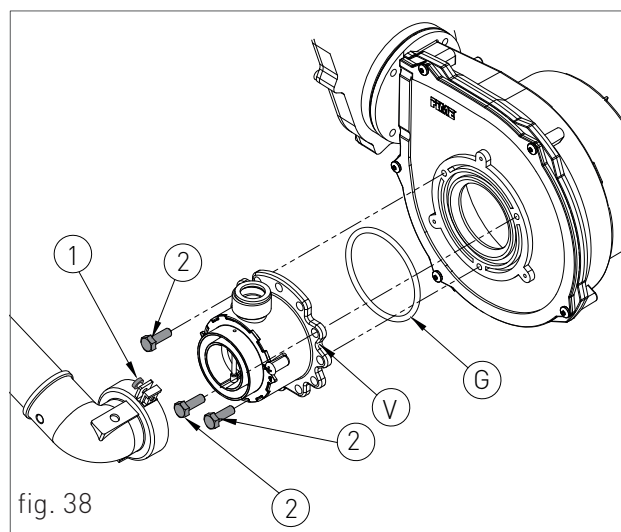
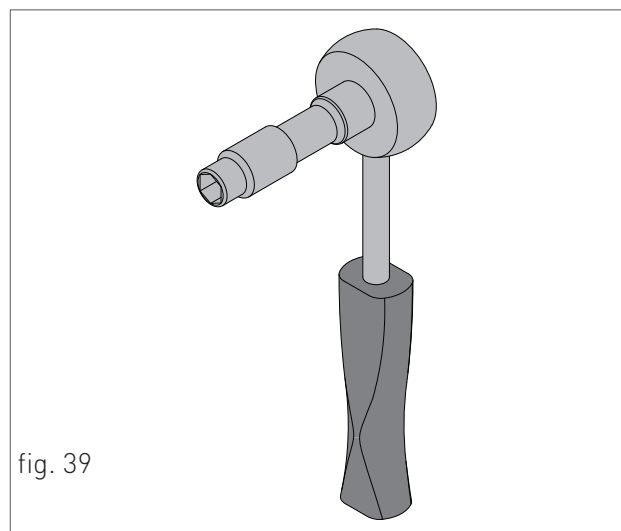

fig. 38
fig. 39
- › loosen the two screws '1' (fig. 38) from the fastening bush, and remove the air suction tube;
- › unscrew the three fastening screws '2' (fig. 38) of the venturi 'V' (fig. 38) using a 10 key, as shown in figure 39;
- › replace the venturi with the one suitable for the type of supply gas (cod. 30-00230 for Gas A, cod. 30-00229 for Gas E), and remount the components following the demounting operations in reverse making sure that gasket 'G' is re-assembled as shown in fig. 38;